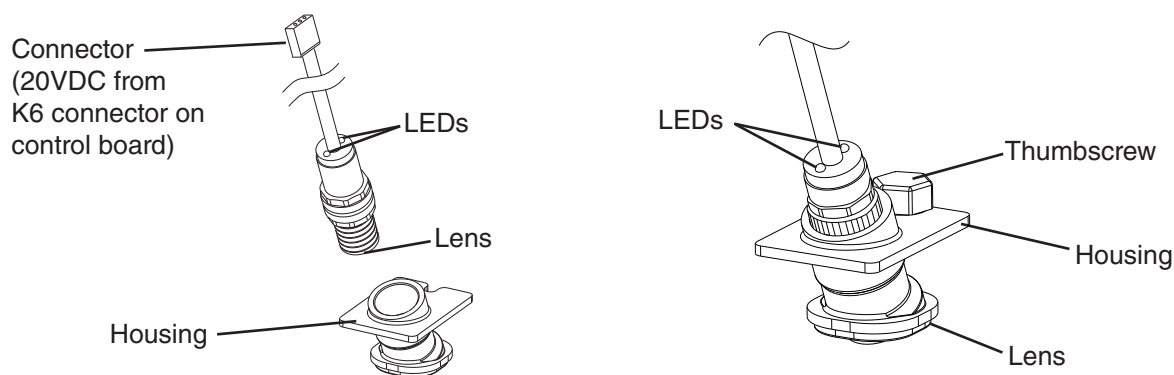

Fig. 3
- 4) Confirm that BC is connected to CB K6 connector. Wipe down the lens with a warm, clean, damp cloth. If the bottom of the icemaker is not accessible in your application, remove the thumbscrew securing the BC housing, then remove the housing from the base. See Fig. 3.
- 6) Move the power switch to the "ON" position to start the automatic icemaking process. Check that BC green LED is on. The BC green LED confirms 20VDC from CB to BC and remains on constantly. **Diagnosis:** If the BC green LED is not on, confirm 20VDC at CB K6 pin #1 (DBU) to CB K6 pin #3 (BR). If 20VDC is present and the BC green LED is off, replace BC. If not, see step "3) BC (infrared sensor) Power Supply," under "II.C. Control Board Check."